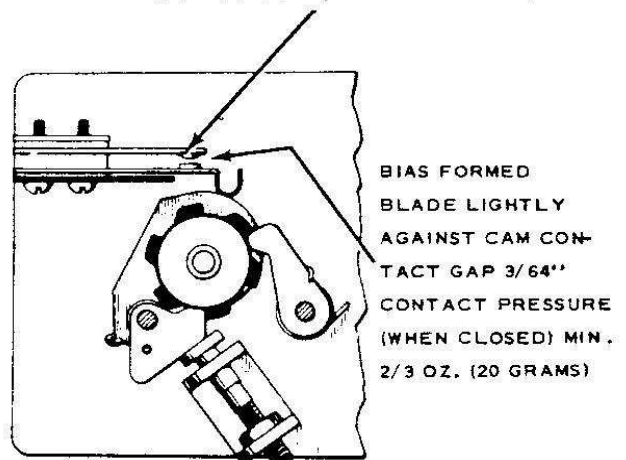

Figure 3.
3. Set the end of the Cam Spring in the first hole in the panel. The Cam Spring may be identified in Figure 3. Check operation by closing all snap-action credit switches and allow the Cam Spring to rotate the switches past the reset bracket. This should be checked slowly to determine if the Spring pressure is adequate to reset the switches without benefit of inertia. If more spring pressure is required, move to the second hole and repeat the test. Use the lowest possible spring pressure (consistent with positive operation) to insure minimum wear and optimum low voltage operation.